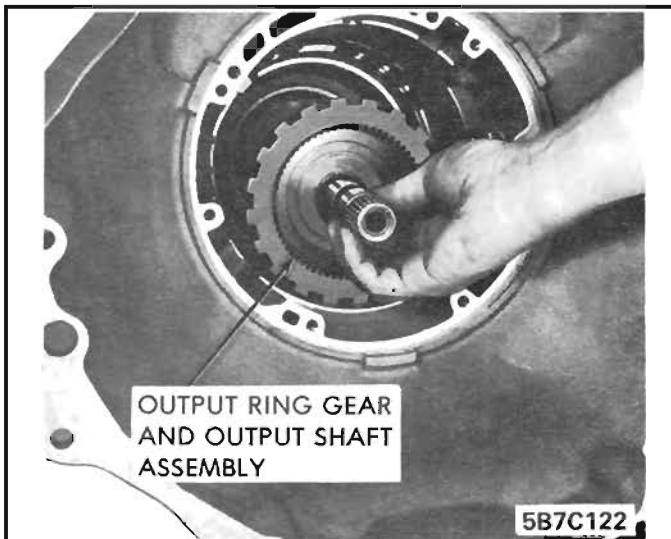

Figure 39 Output Ring Gear and Shaft Removal
1. Remove output ring gear and shaft assembly from case. *See Figure 39.*